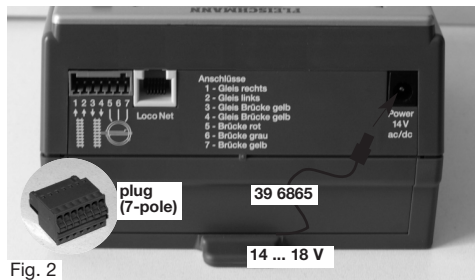

Fig. 2
All **connections** of the TURN-CONTROL will be found on the rear of the equipment (Fig. 2).
- The power feed can be connected up to any of the FLEISCHMANN transformers 6706, 6735, 6755 or 6811 by using the connecting cable 39 6865 as supplied, or to any transformer which incorporates a 14-16.5 V continuous voltage output (DC or AC), see Fig. 2.
- Track connections and turntable connections are made via the 7-pole plug. The location of the wires can be seen above (Fig. 2) or shown on
First of all, insert the 7-pole plug into its locating socket on the *TURN-CONTROL*. Connect up the wires onto the 7-pole plug (see Fig. 2).
6735. The small round plug on the other ends of the wires is then inserted into the socket on the *TURN-CONTROL* marked "Power 14 V ac/dc" (Fig. 2).